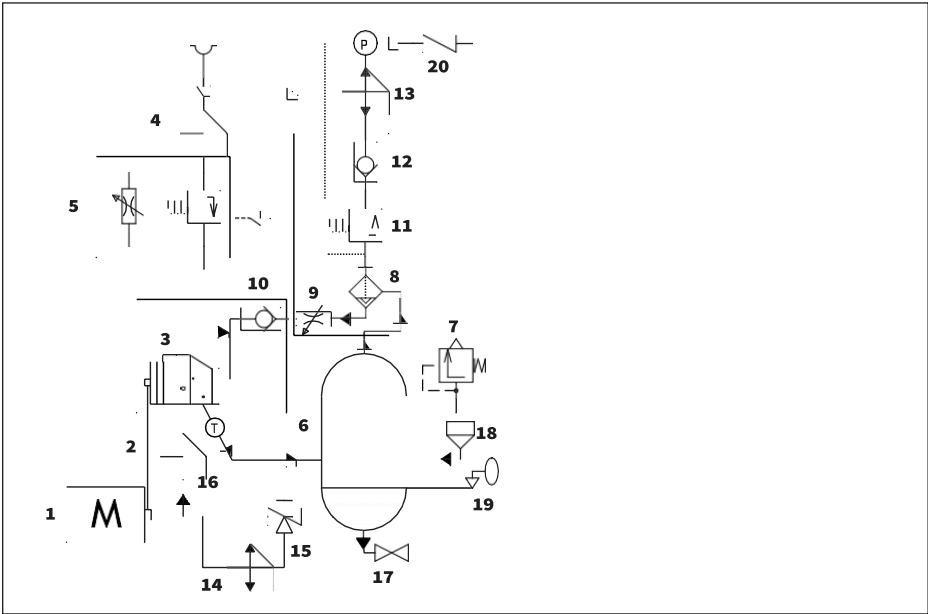
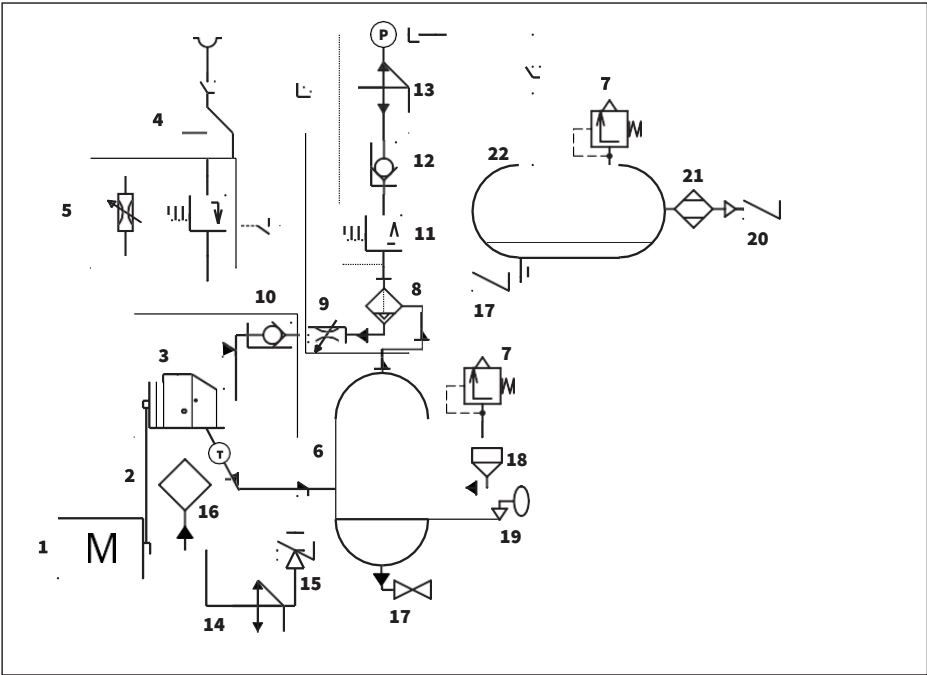

Fig. 2.3.1 Function diagram A07..-A22..
Fig. 2.3.2 Function diagram AR07...AR22..., ARD07...-ARD22..
2.4 Functional description (see Fig. 2.3.1 and Fig. 2.3.2)